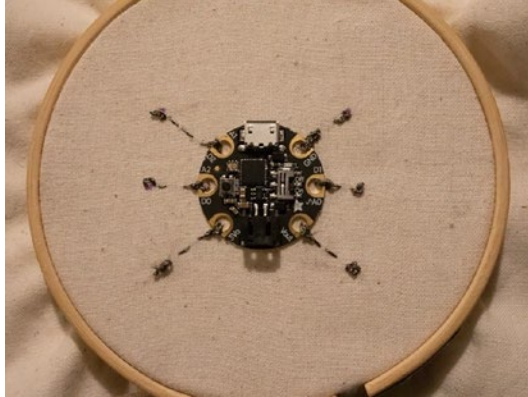

Figure 4-30. Sewing the Gemma
- Using running stitch, sew a line out for each pin and tie off as shown in Figure 4-30.